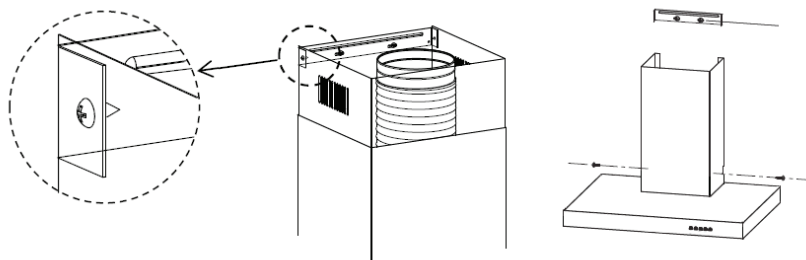

Fig. 7
9. Place the lower as well as the upper chimney part. Lift the upper part up to the required height and attach the upper chimney part to the upper chimney part holder as shown in Fig. 7.